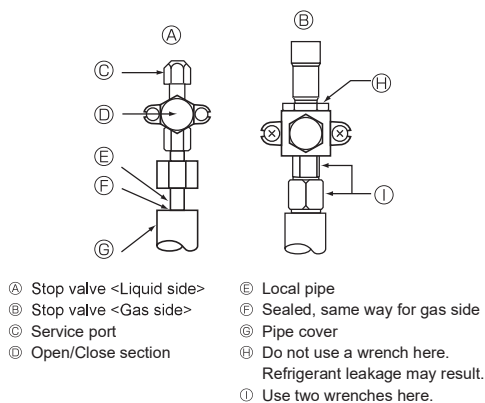

Fig. 4-5
4.4. Refrigerant pipe airtight testing method (Fig. 4-5)